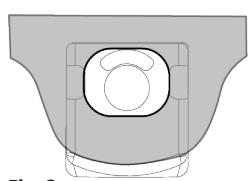

Fig. 2
1. Align the pulley fixture (PF101) under hoop ear using the ridge to align the pulley fixture (PF101) with the inside-back of the hoop hole (**Fig. 2**);
NOTE: The pulley fixture ridge must stay inside the hoop hole for proper alignment (**Fig. 2**).